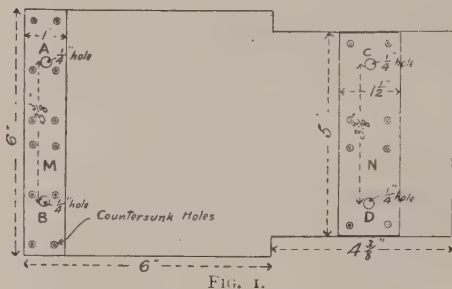

FIG. 1.
The Base.—This is made from a piece of mahogany cut to size and shape of Fig. 1. Chamfer off the front edge on the top side.
Bearings and standards of front wheels.—Cut off a piece of brass sheet $\frac{1}{8}$ in. thick, 6 ins. long, and 1 in. broad (M). Drill and countersink holes as shown (Fig. 1) for screws to secure it to base. Scribe a line down centre, and drill on it, $3\frac{3}{8}$ ins. apart, two $\frac{1}{4}$ in. holes at equal distances from the ends, as seen at A and B. Turn up, from $\frac{5}{16}$ in. brass rod, two standards $1\frac{7}{8}$ ins. long to shape given in Fig. 2. The flat portions must be cut out with a fine hack saw, and then filed up flat. In the side of these flat portions drill a $3\text{-}16$ ths ins. hole (E) to form the bearings. Now cut exactly through this hole with fine saw, having first drilled and tapped two holes to take two small screws (s s, Fig. 2). Fasten the two pieces together, and rimer the hole (E) back to $3\text{-}16$ ths in. again, as the